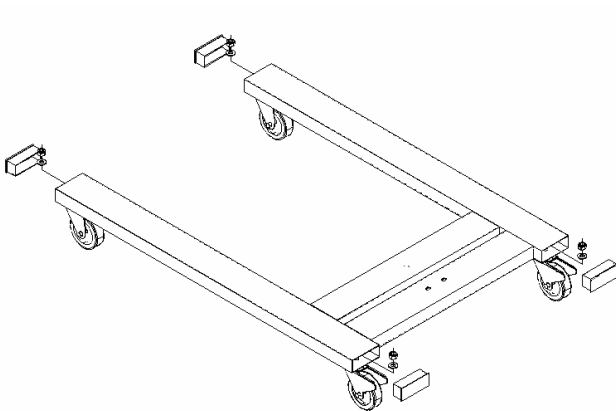

Fig. 1
1. Remove cassette assembly box from the main packaging together with the main upright column and arm assembly. Remove the base unit and attach castors with the braked castors at the rear of the base (see Fig. 1). Ensure that you have a flat floor and apply the brakes on the rear castors. Remove all packaging.